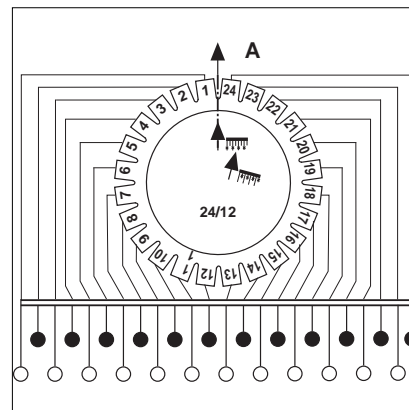

Fig. 24-17
- if the arrow on the reduction head points away from centre, only the short coulters deliver seed, see fig. 24-17.